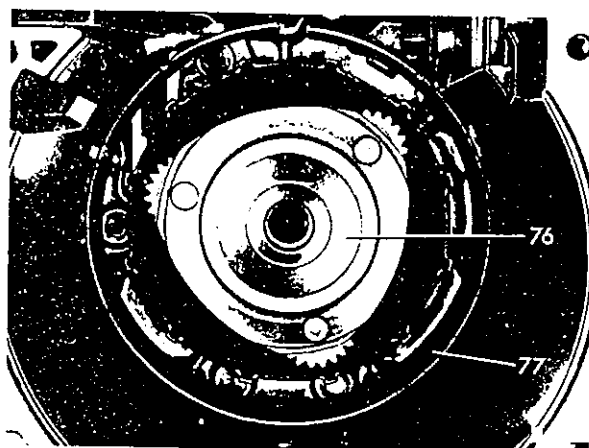

Fig. 33
10 Install output shaft (76) with radial-ball bearing and parking lock gear into transmission case and seat with a plastic hammer **Fig. 33**